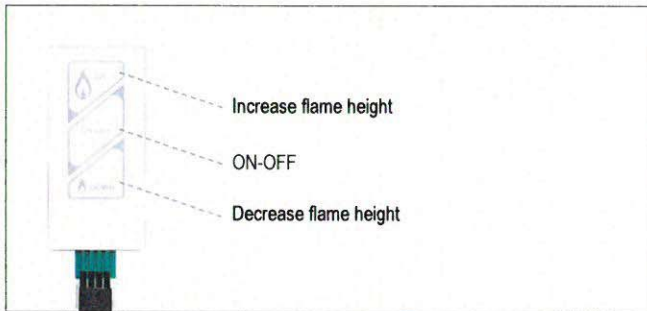

Figure 30: Touchpad /Wall Switch
- Press **ON-OFF** button (see figure 30) until two short beeps confirm the start sequence has begun; release button.